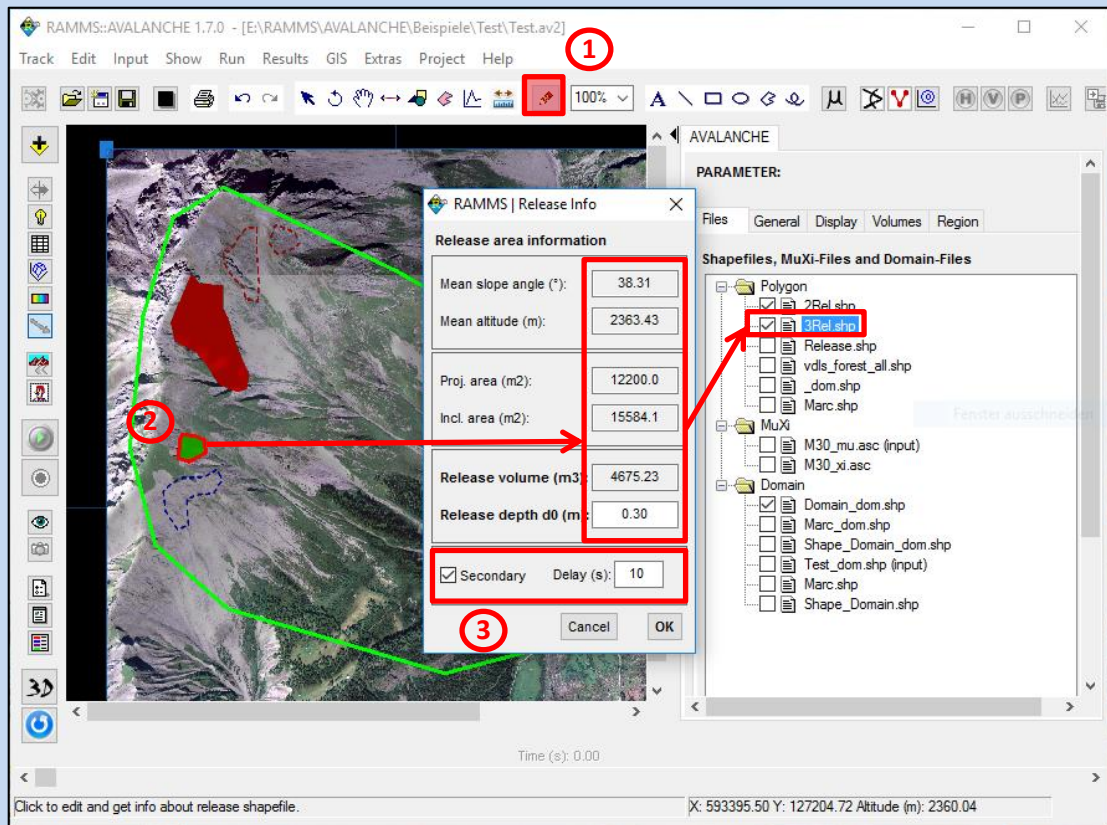

Figure 3.34: About
Therefore, we again click on  (1) and choose the middle polygon of 3Rel.shp (2), see Figure 3.34 below. We then specify a release depth of 0.3m and a delay of 10s (3).